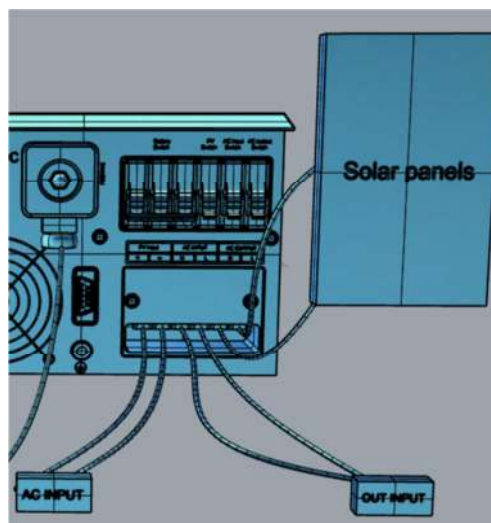

Figure 5. AC Cable Connect to unit
Step2: Following the wiring guide located in the AC input wiring compartment as figure5, connect the GND (green/yellow), Line (brown), and neutral (blue) wires from the AC input (utility, generator etc) to the terminal block.